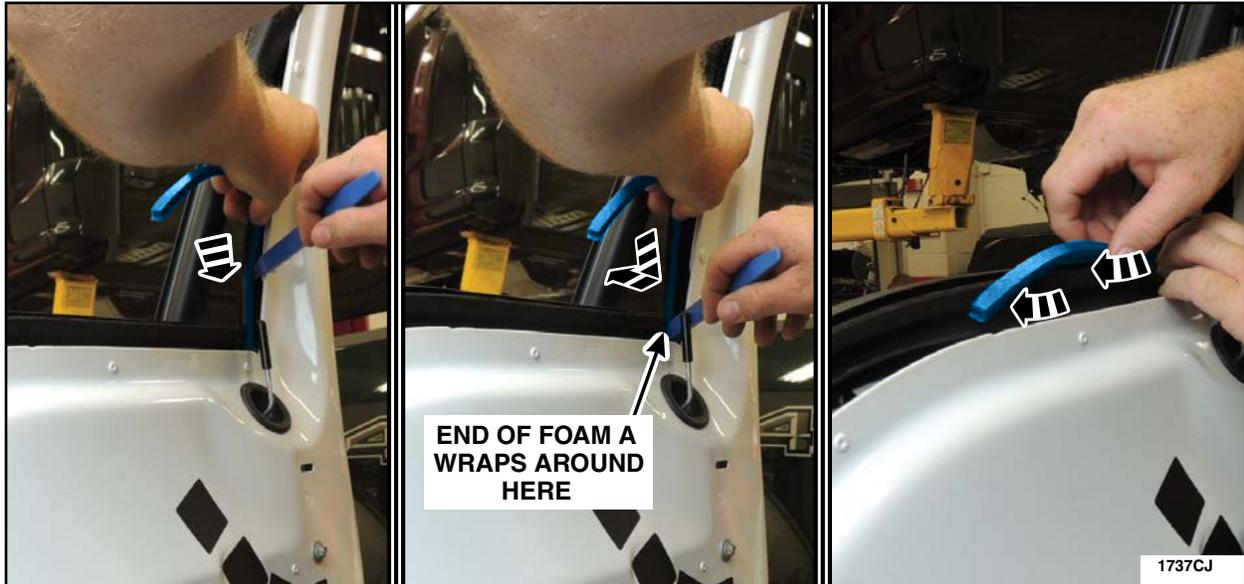

FIGURE 13
14. Using a small plastic trim removal tool, install Foam A to the outer belt moulding on top of the bead of silicone that was previously applied in Step 13. Both outer belt moulding clips need to be covered by the Foam A. See Figures 13 and 14.